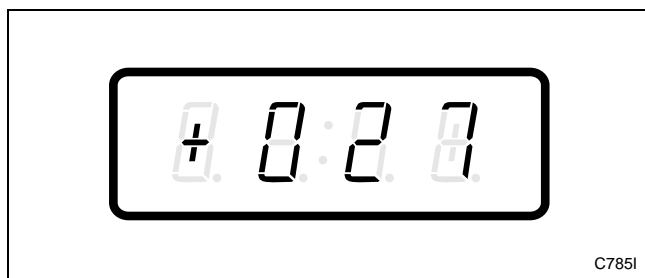

Figure 80
3. Press the DELICATES (+) or the COLD (-) keypad to scroll through the programmable options until “+027” appears in the VFD. Refer to *Figure 80*.